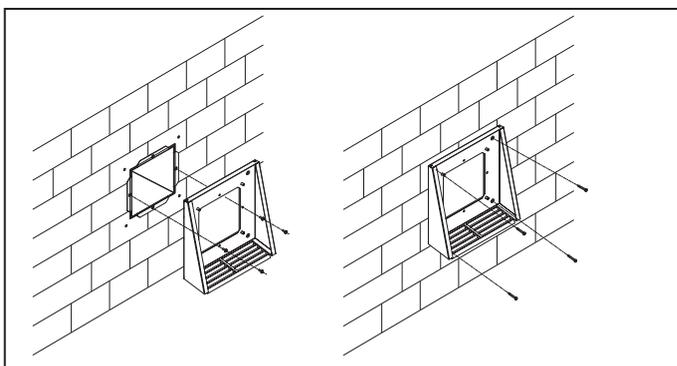

Fig. 9a.
- Fig. 9a - for the VENTO Solar V60 Pro / Pro2 models. Attach the back part of the ventilation hood to the wall using the screws 4x40 from the delivery set.